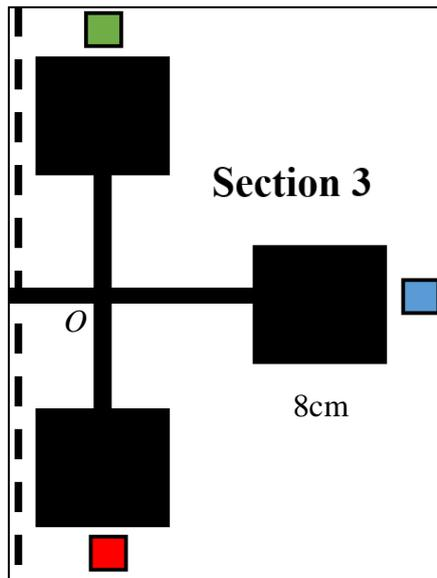

Figure 5: Payload unloading area
2. Unloading square will be marked using colour square as the **Figure 5** shows. These unloading locations are fixed throughout the competition. From the centre point “*O*” to the three unloading points the distance will be same.